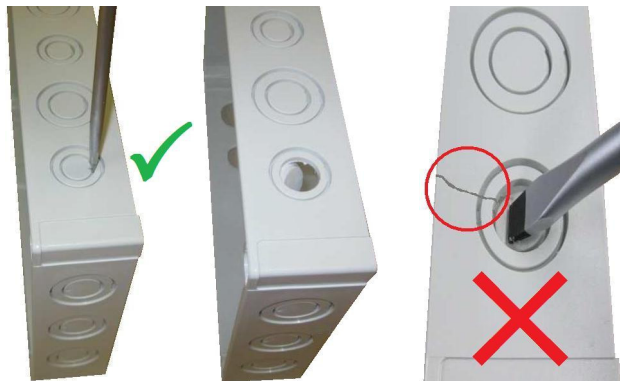

Fig.5:
Includes the contactor for full motor protection tripping, the On/Off switch, with integrated run signal light (Fig. 1, item 1), terminals for external potential-free activation/deactivation and terminal rail (Fig. 5).